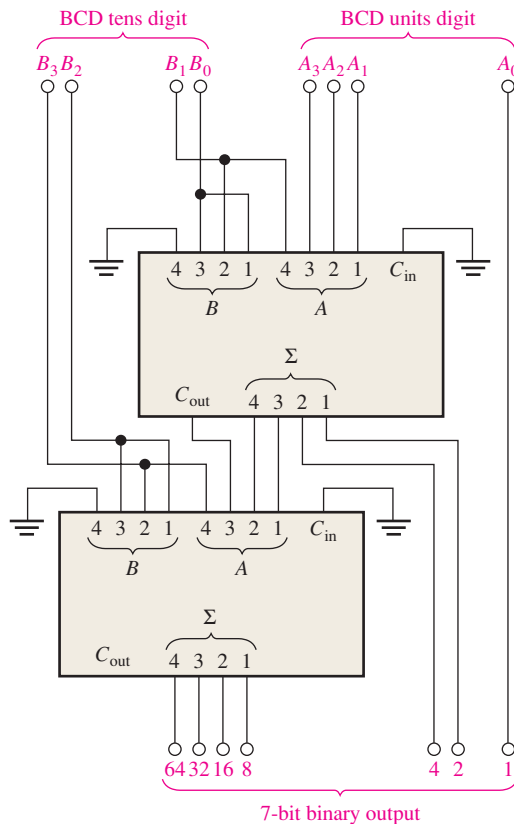

FIGURE 6–86
38. For the 7-segment display multiplexing system in Figure 6–49, determine the most likely cause or causes for each of the following symptoms: